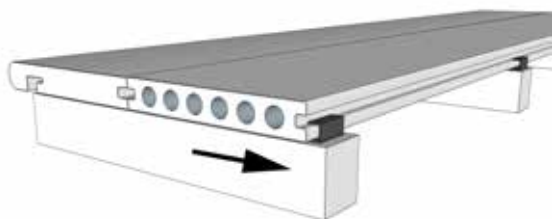

Figure 4
- 5 Install the inner tread board as shown in Figure 4: